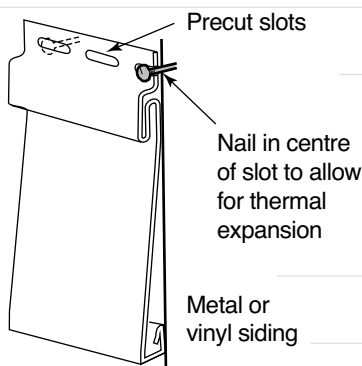

FIGURE 42
- Use the nail slots provided in the siding, and make sure that nails are set in the centre of the slots (see Figure 42). Do not nail through the material.